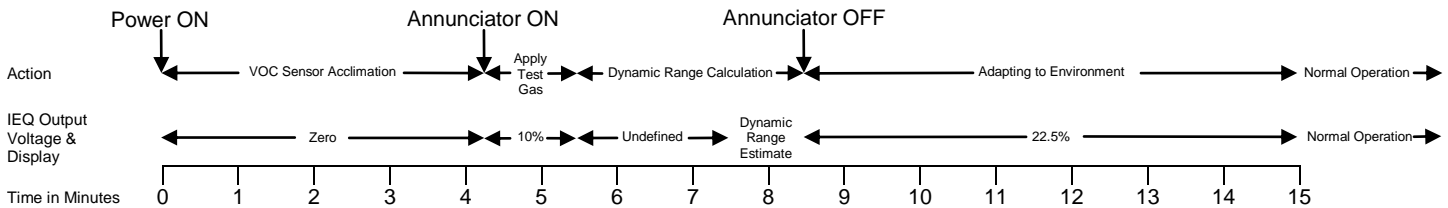

Figure 2: Sensor Start-up Timeline
- Read and record the VOC output voltage or LCD display approximately 2 to 4 minutes following the stimulus gas application to determine the dynamic range measurement. (Dynamic Range Estimate period in figure 2)